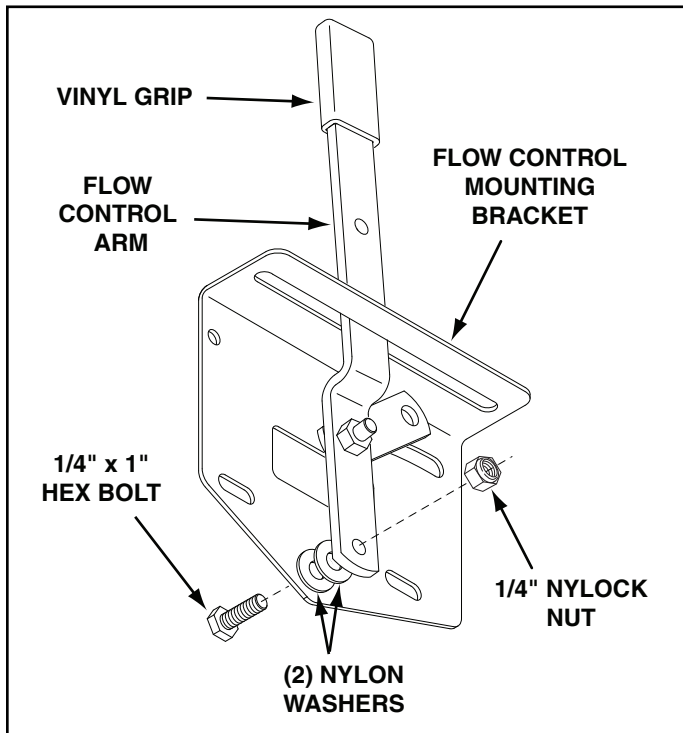

FIGURE 8
16. Assemble the flow control arm to the flow control mounting bracket using a 1/4" x 1" hex bolt, two nylon washers and a 1/4" nylock nut as shown in figure 8. **Tighten** the nut until the flow control arm pivots with a slight resistance.
17. Assemble the vinyl grip. See figure 8.